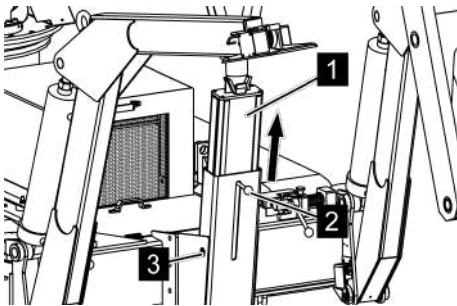

Fig. 100: Lifting the telescopic arm attachment
4. ➤ Pull the telescopic arm attachment (Fig. 100/1) upwards on the handle (Fig. 100/2) until the holes (Fig. 100/3) meet.